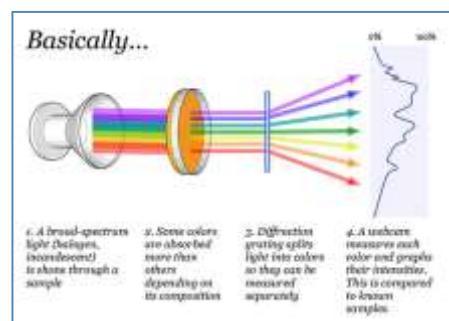

Figure 3. Working principle of spectrometer
Scientists use an instrument called a spectrometer to quantitatively determine the amount of light absorbed by a solution. The primary inner parts of a typical spectrometer are illustrated in Figure 3. The spectrometer has a light source that emits light which is focused with a small slit. The wavelength of interest is then selected using the monochromator (“mono” meaning one and “chromate” meaning color) and an additional slit. The selected light then reaches the sample and depending on how the photons interact with the compound of interest, the light is either absorbed or passes straight through. By comparing the amount of light entering the sample (I_0) with the amount of light reaching the detector (I), the spectrometer is able to tell how much light is absorbed.